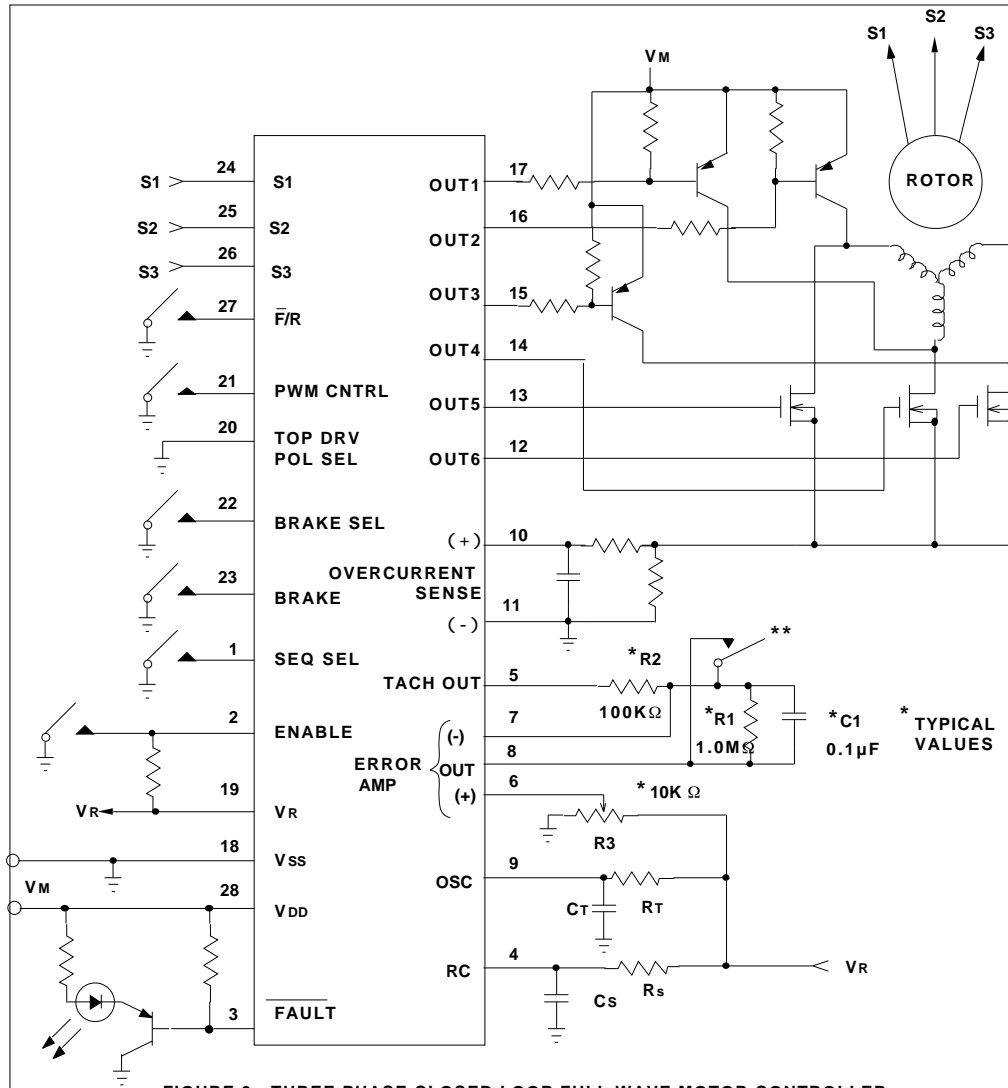

FIGURE 3. THREE PHASE CLOSED LOOP FULL WAVE MOTOR CONTROLLER
VDD = 12V, RT = 47k , CT = 0.001μF, RS = 10k , CS = 0.01μF (See Figure 3) TA = 25°C, unless otherwise specified
**FIGURE 3.** The closed loop motor control operation is achieved by applying the Tachometer Output at Pin 5 into the negative terminal of the Error Amplifier (Pin 7) through an R1-C1-R2 integrating network. Since the Tachometer Output has a fixed positive pulse width, the average value of the pulse train is directly proportional to the motor speed. The desired speed is selected by applying a voltage at the positive input (Pin 6) of the Error Amplifier. The resultant output voltage of the Error Amplifier is applied to an internal Comparator along with a ramp waveform generated by the RC Network at Pin 9. The PWM signal at the Comparator output is used to drive outputs 1 thru 6 and complete the closed loop. For this configuration, Pin 20, the Top Driver Polarity Select must be tied to Ground.